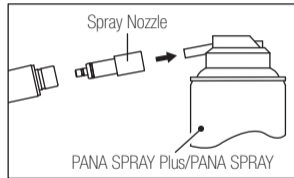

Fig. 8
- 3) Insert the Spray Nozzle in rear of the handpiece. Hold the handpiece and spray for approximately 2-3 seconds. Apply lubricant until it expels from the handpiece head for at least 2 seconds. (Fig. 8)
- 3) Lubricate the handpiece by using NSK PANA SPRAY Plus/PANA SPRAY (Fig. 8, 9) or NSK automatic handpiece cleaning and lubrication system.